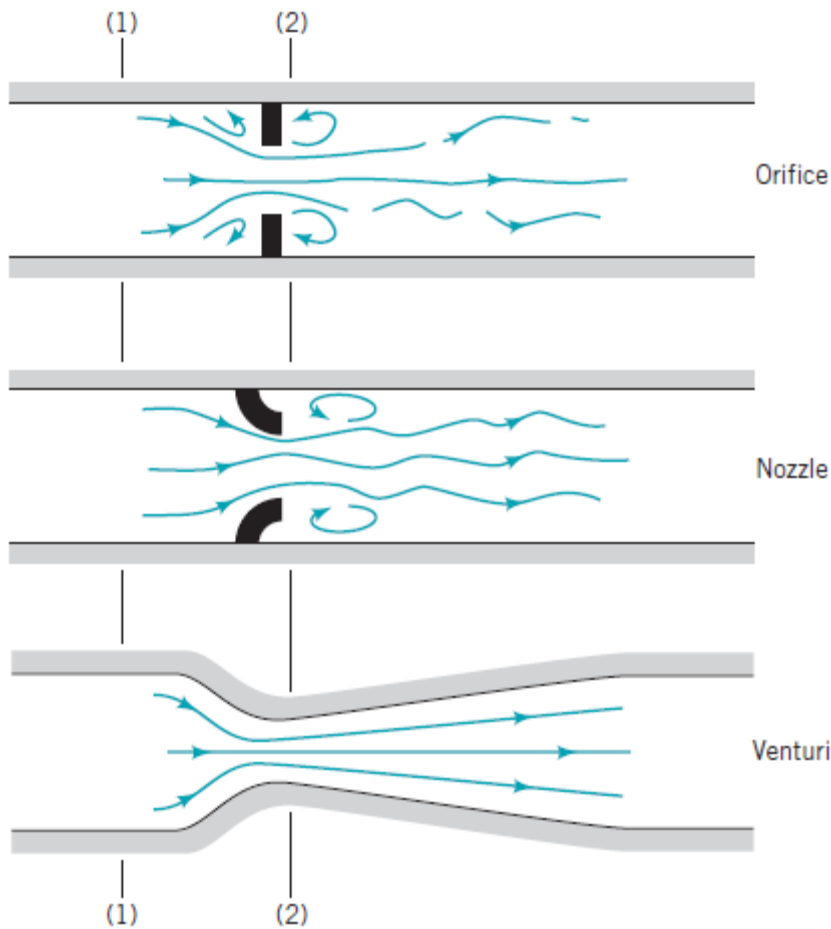

Figure 4.14. Typical devices for measuring flowrate in pipes.
An effective way to measure the flowrate through a pipe is to place some type of restriction within the pipe as shown in Fig.4.14 and to measure the pressure difference between the low-velocity, high-pressure upstream section (1), and the high-velocity, low-pressure downstream section (2). Three commonly used types of flow meters are illustrated: the *orifice meter*, the *nozzle meter*, and the *Venturi meter*. The operation of each is based on the same physical principles—an increase in velocity causes a decrease in pressure. The difference between them is a matter of cost, accuracy, and how closely their actual operation obeys the idealized flow assumptions. The theoretical flowrate for above flow meters can be written as the following.